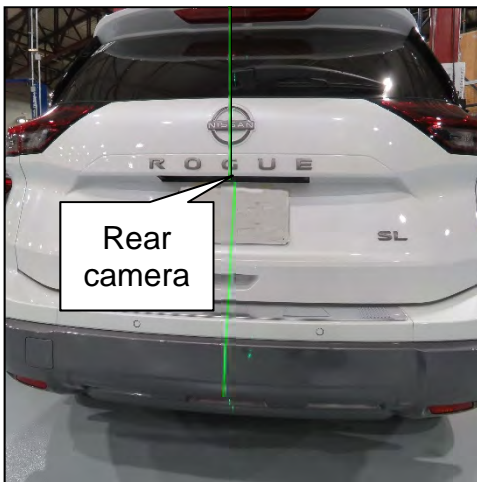
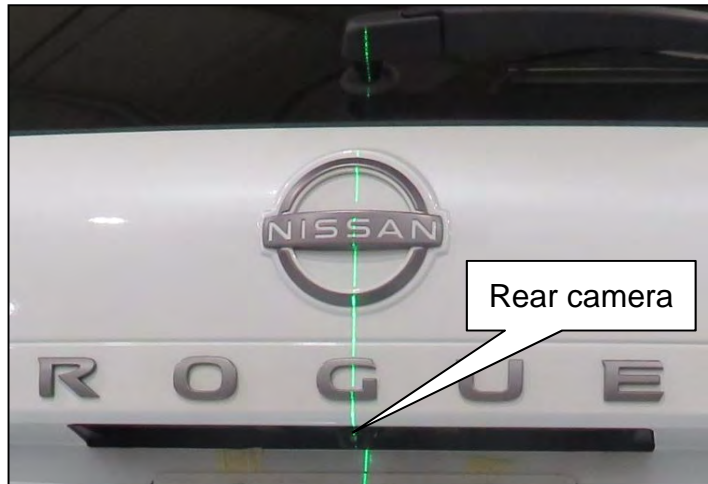

Figure 66
Figure 67
45. Place the laser level approximately 800 mm (31.5 in.) from the rear of the vehicle and align the laser with the center mark at the front of the vehicle and the middle of the rear camera, as shown in Figure 66 and Figure 67.